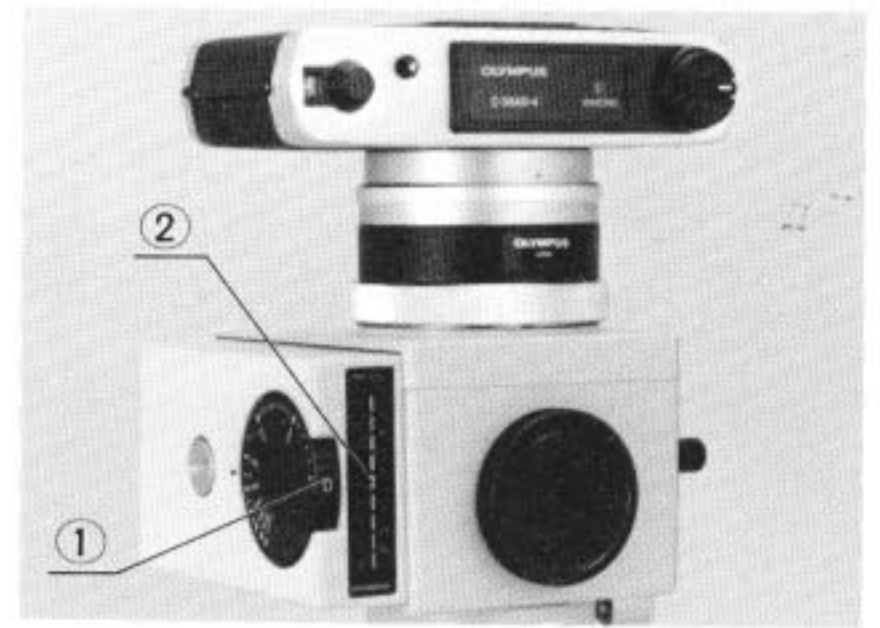

Fig. 24
- c) Set the color temperature module dial ① to D (for daylight type) or, T (tungsten type) depending on the type of film used. (Fig. 24)